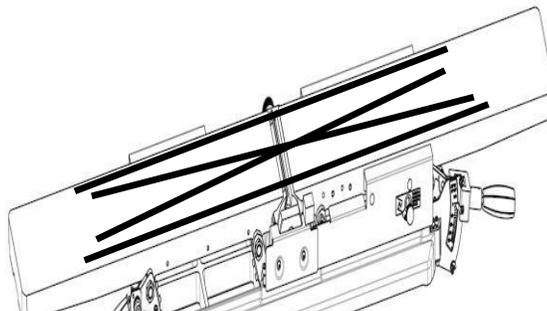

Figure 35: Checking Bed Alignment
STEP 3: Place straight edge in positions shown in **FIG. 35**.